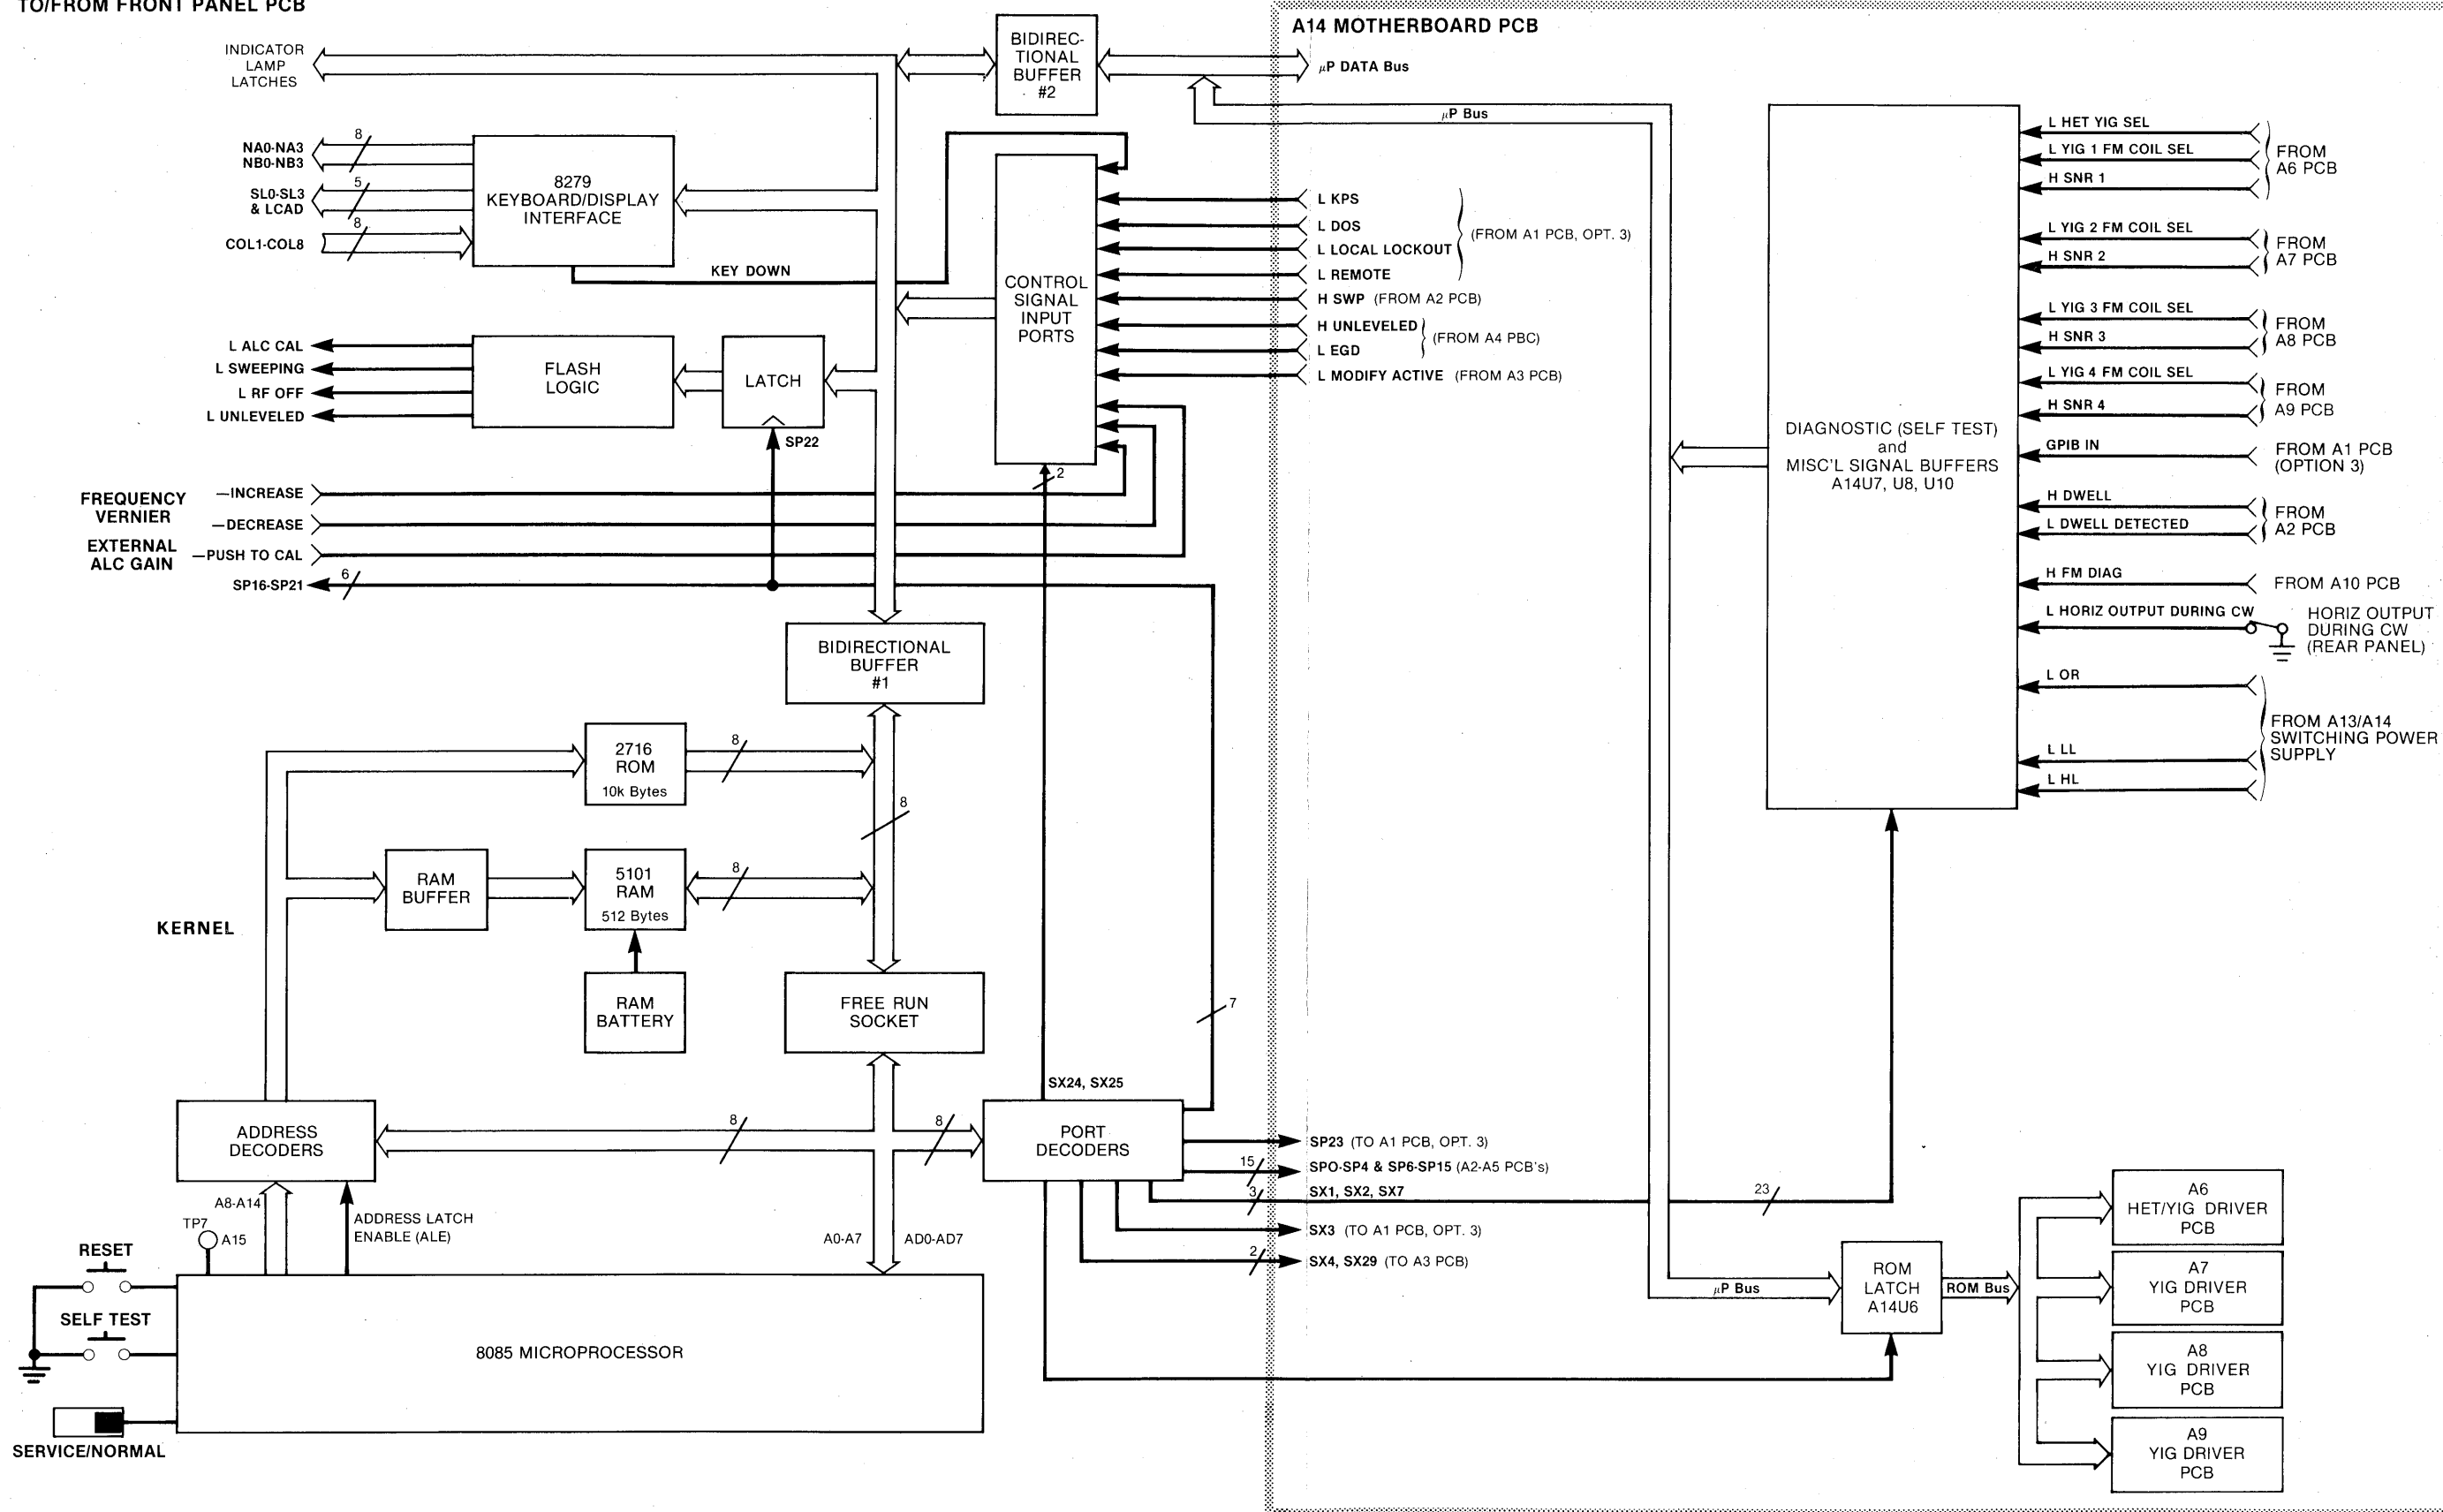
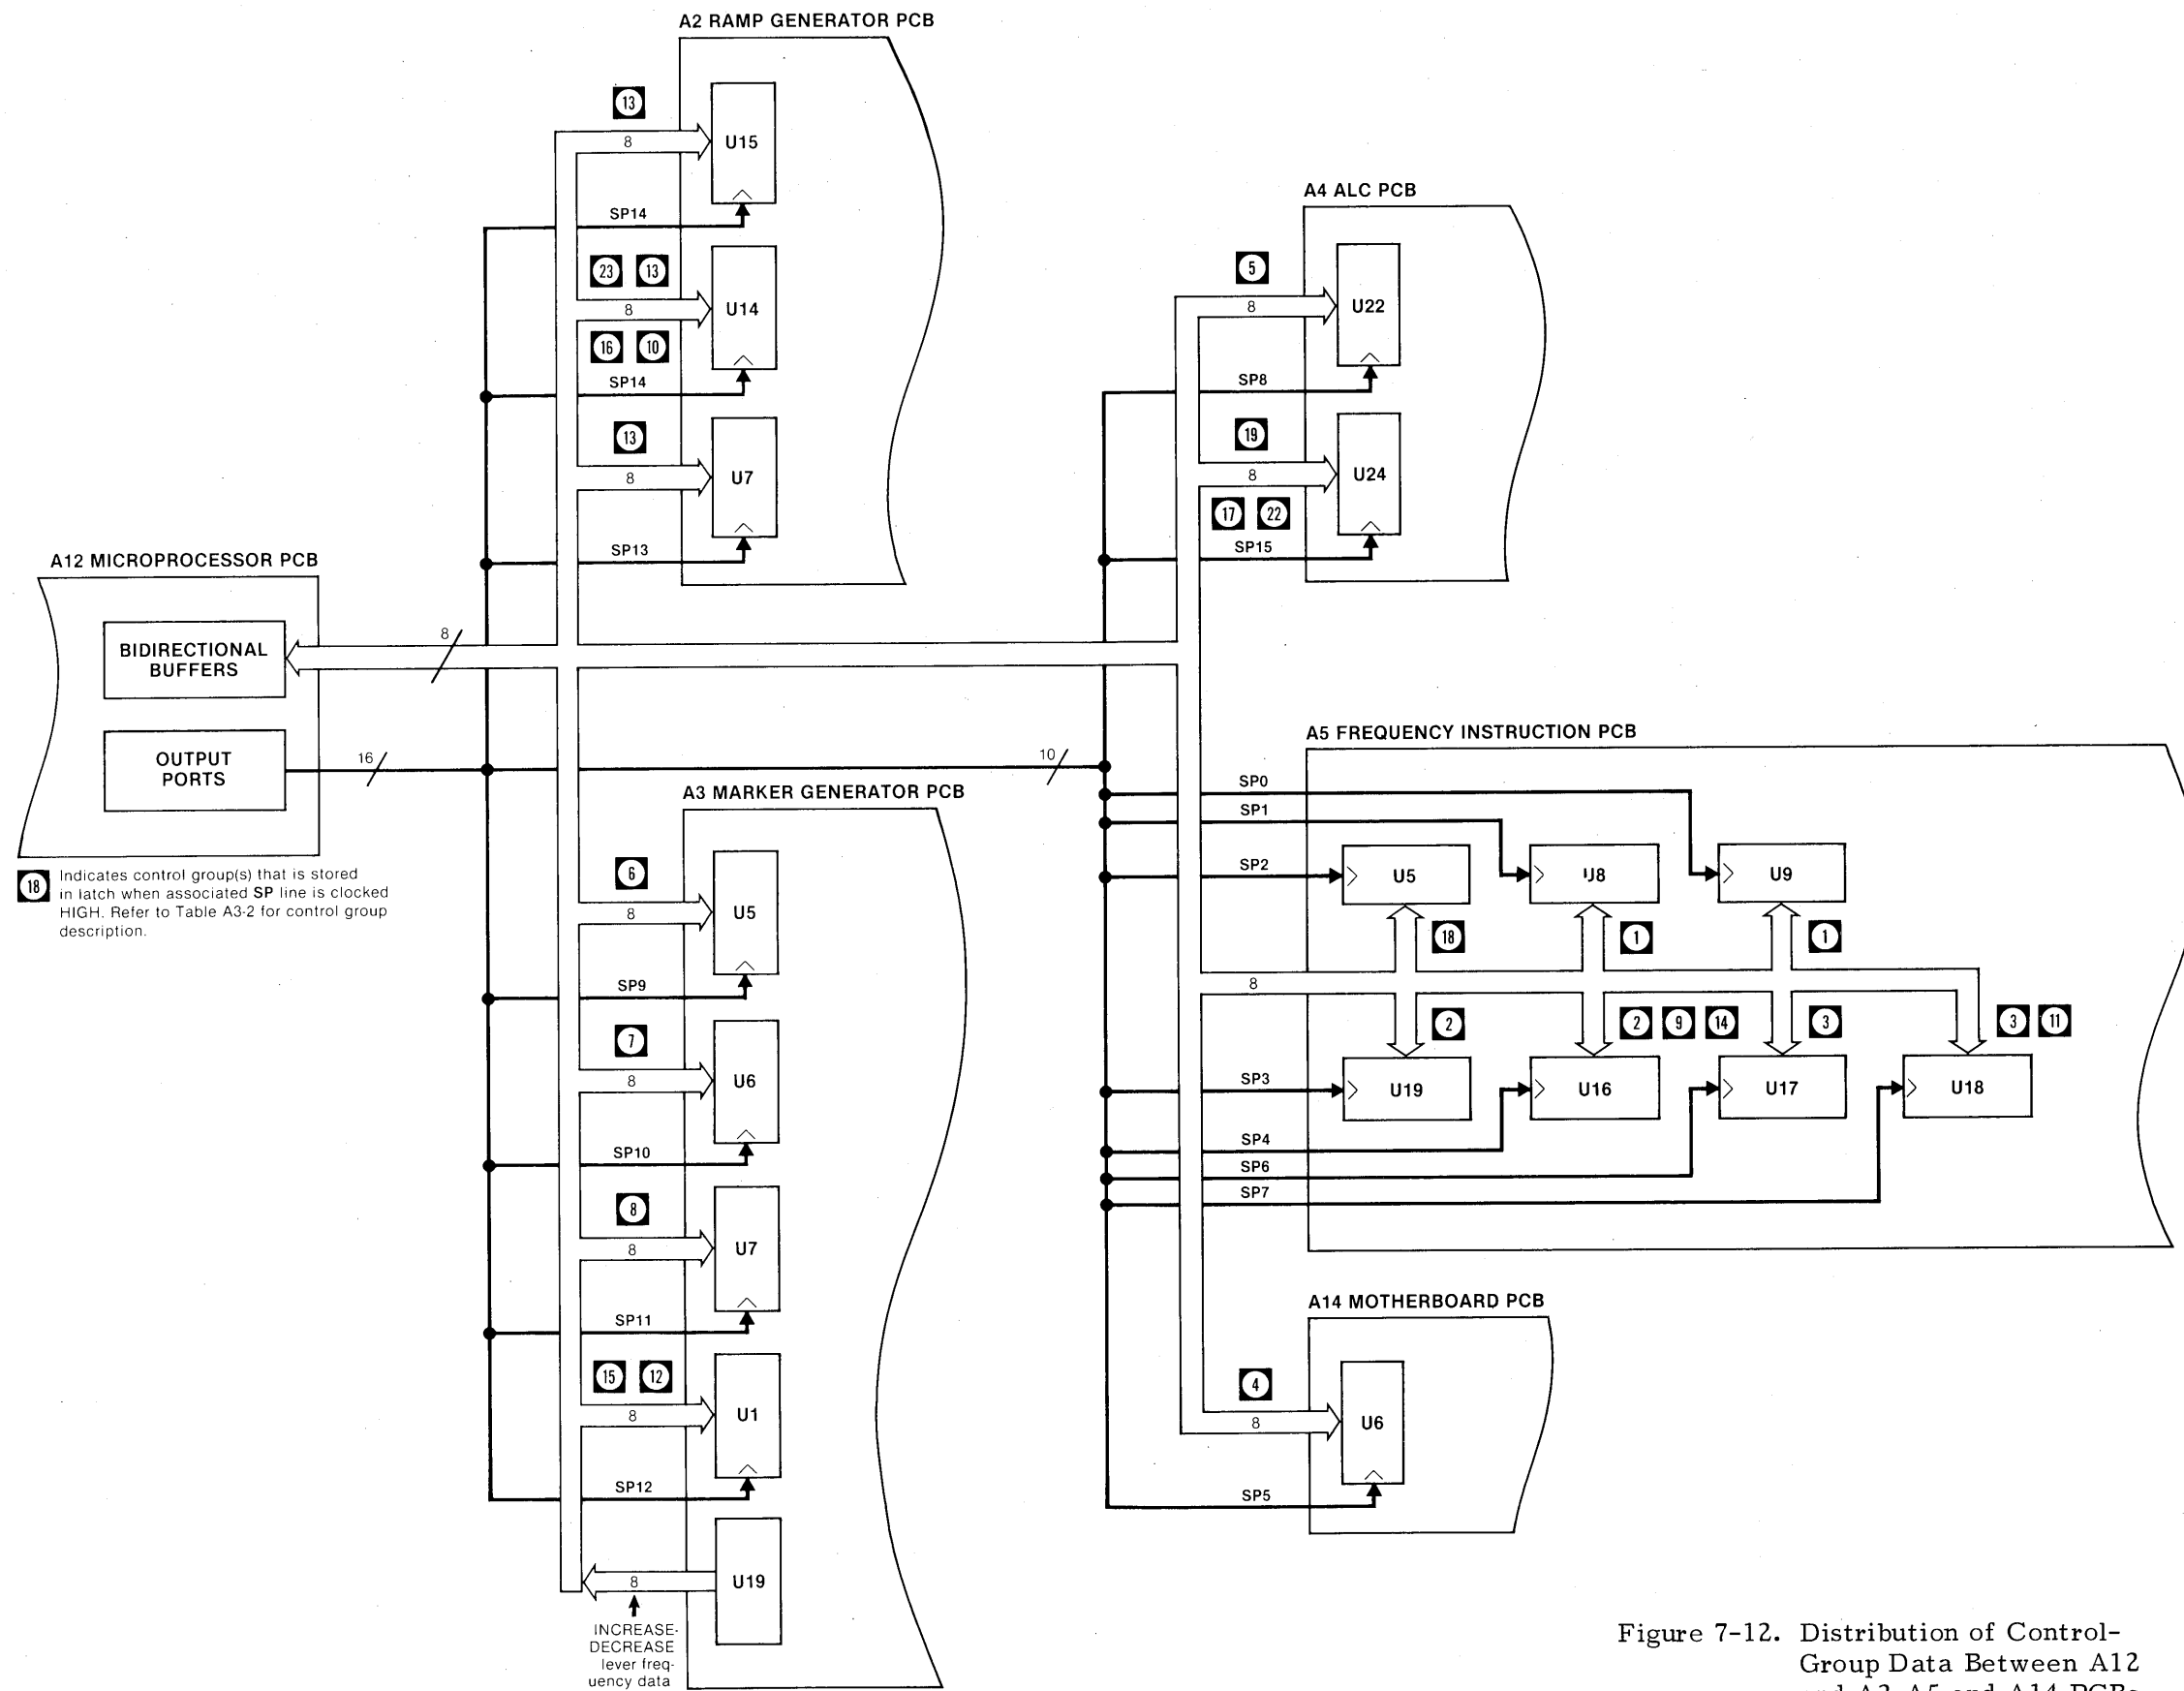
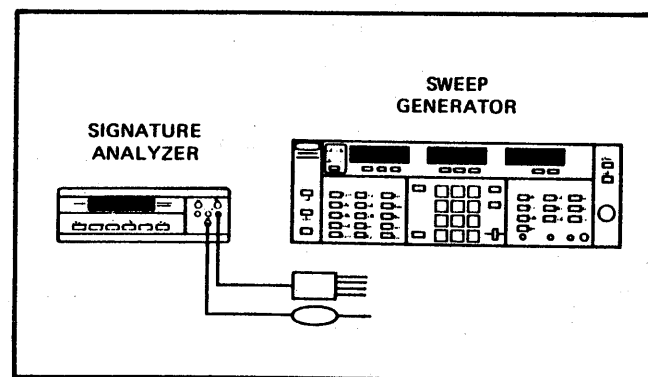

Figure 7-11. Microprocessor Overall Block Diagram
Figure 7-12. Distribution of Control-Group Data Between A12 and A2-A5 and A14 PCBs
Figure 7-16. Test Setup for Troubleshooting A12 PCB
The A12 Microprocessor PCB controls the operation of the sweep generator. It also provides, via the A11 Front Panel PCB, the interface between the front panel pushbuttons and the analog sweep- and microwave-generating circuitry. To provide this control, the A12 PCB contains an 8085 Microprocessor integrated circuit (IC), an 8279 Keyboard/Display Interface IC, 10k bytes of read-only memory (ROM), and 512 bytes of read/write memory (RAM). A block diagram of the A12 PCB circuitry is provided in Figure 7-11. A diagram showing the distribution of control-group data between the A12 PCB and the A2-A5 and A14 PCBs is provided in Figure 7-12; descriptions of these data are provided in Appendix III. A flowchart showing the microprocessor's ac power-on operational program is provided in Figure 7-13. A parts locator diagram for the A12 PCB is provided in Figure 7-14. And the A12 PCB schematics (5 sheets) are provided in Figure 7-15.
The 8279 IC (U25) (Figure 7-11) interfaces the microprocessor with the front panel pushbuttons and numeric displays. This IC, via its scan lines (the **SL0-SL3 & L CAD Bus**), causes the front panel pushbuttons and numeric-display digits to be continually scanned. When the user selects a pushbutton, an 8-bit digitally coded word (keycode) representing that pushbutton is sent over the **COL1-COL8 Bus** to the keyboard controller (8279), and
U19-U21 decode the microprocessor output-port data and select one of 24 output ports. The selected port then receives the data that the microprocessor has concurrently sent over the data bus. The output-port-select lines are **SP0** thru **SP23**. The **SP0-SP15** lines go to the analog PCB ports, located on the individual A2-A5 and A14 PCBs (Figure 7-12). **SP16-SP21** go to the front-panel non-flashing LED ports, A11U1 thru A11U6. The **SP22** line goes to the front-panel flashing LED port, A12U31. And the **SP23** line goes to the GPIB Interface PCB μ P-data input port, A1U22 (Option 3 only).
There is no error code for the A12 Microprocessor PCB. Read-only-memory (ROM) or read/write memory (RAM) malfunctions occurring in the microprocessor kernel (Figure 7-11) will cause the respective ROM's or RAM's error code to be displayed. Other malfunctions occurring within the kernel will probably result in the sweep generator's not turning on. And malfunctions occurring outside the kernel will probably result in the display of one or more analog circuit error codes. The test equipment setup for troubleshooting the A12 PCB is provided in Figure 7-16; the troubleshooting flowchart is provided in Figure 7-18.